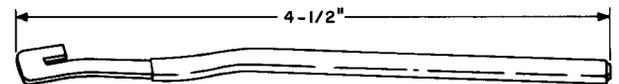

Fig. 11—699A Adjuster Tool
2.12 **699A:** The 699A tool (Fig. 11) is an adjuster used in adjusting the upper armature support lug of the 324, 325-, and 328-type crossbar switches.